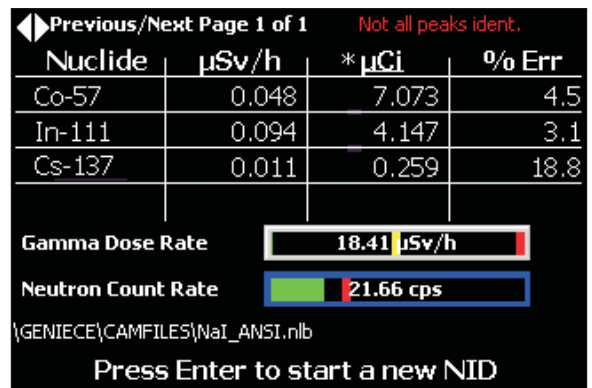

Figure 24 Neutron Nuclide ID
- The **Neutron** display (Figure 24), which will be seen only if a Neutron Probe is attached to the InInspector, adds a Neutron Count Rate bargraph.
The Dose Neutron Nuclide ID screen (Figure 24) will be seen only if a Neutron Probe is attached to the InSpector.